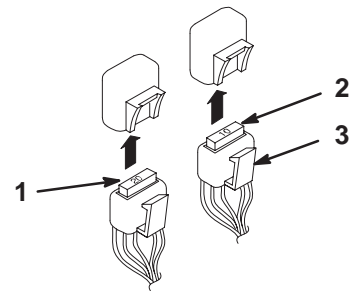

Figure 63
Fuse: Fuel Pump 10 amp, blade-type (Fig. 63)
Fuse: Engine Fuse 20 amp, blade-type (Fig. 63)
3. Locate fuses in the left rear of machine. Pull plastic clip out and down to gain access to fuses in holders (Fig. 63).
4. To replace fuses pull out on the fuse to remove it (Fig. 63).